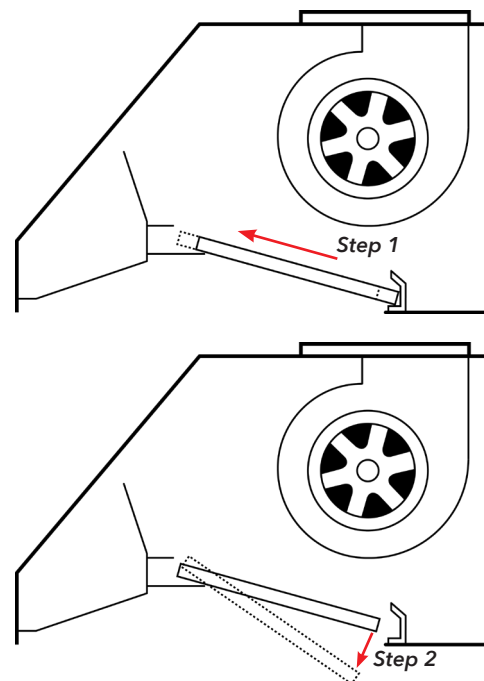

Figure 1
- Remove the Baffle Filters. (Step 1 & 2 in Figure 1)
- Align the baffle filters with the Hood Body and install them in revert steps (**Step 2, then Step 1**) in **Figure 1** in Page 7.